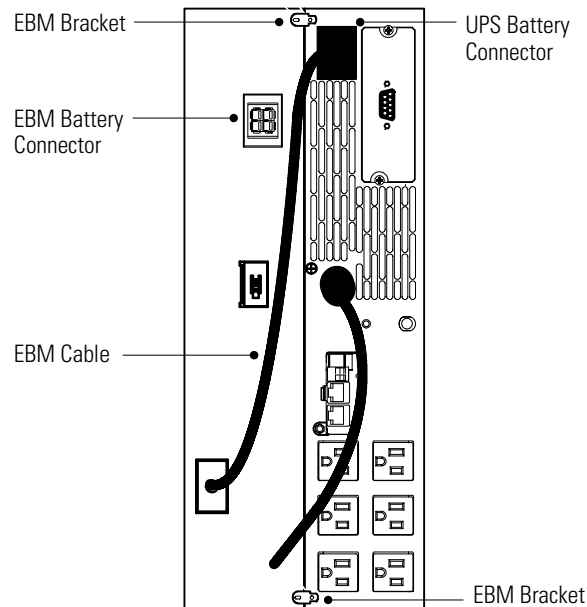

Figure 21. EBM Connections
6. Plug the new EBM into the UPS as shown in Figure 21.